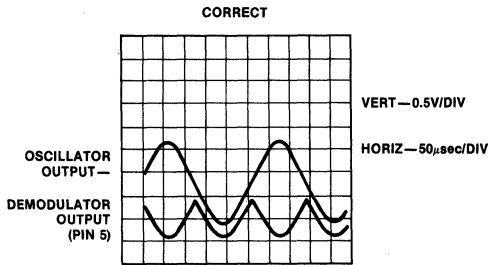

Figure 18a
Waveform photo in Figure 18A-B, shows the demodulator output signal when phasing of the synchronous demodulator is correct (A) and improperly adjusted (B).